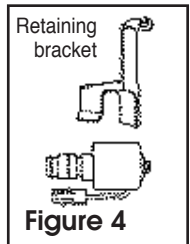

Figure 4
Note: Do Not reuse Retaining Bracket shown in Figure 4
7. To Install: Before attempting to install the EPC solenoid grease the snout to prevent O-rings from rolling off. Install EPC with Teckpak's retaining bracket (Figure 4). Reuse the OEM bolt. Connect vehicle wiring harness to the new 76923 EPC Solenoid.